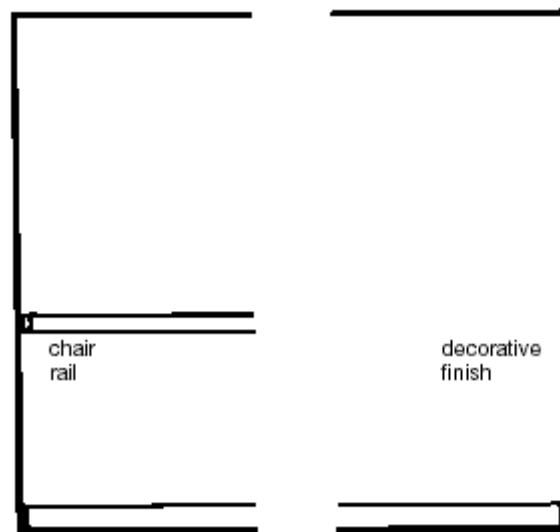

Figure 1 Light duty
- 3.4 No additional protection is required; the decorative finish should be selected according to durability and use of room. Chair rails may be required in committee rooms etc (see Figure 1).